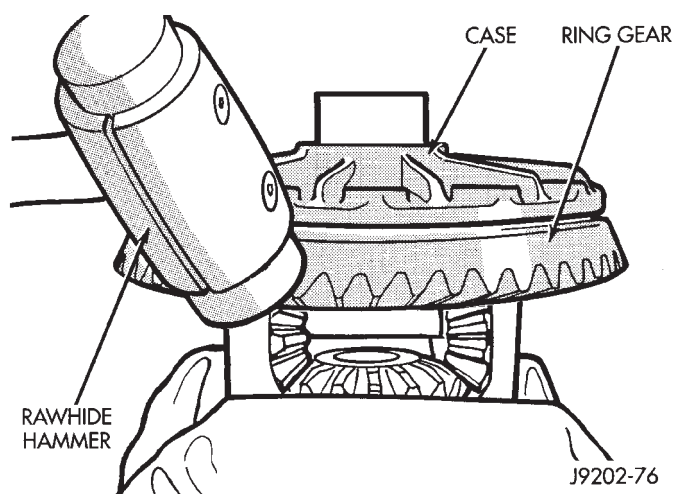

Fig. 32 Ring Gear Removal
- (1) Remove differential from axle housing.
- (2) Place differential case in a suitable vise with soft metal jaw protectors. (Fig. 32)
- (3) Remove bolts holding ring gear to differential case.
- (4) Using a soft hammer, drive ring gear from differential case (Fig. 32).